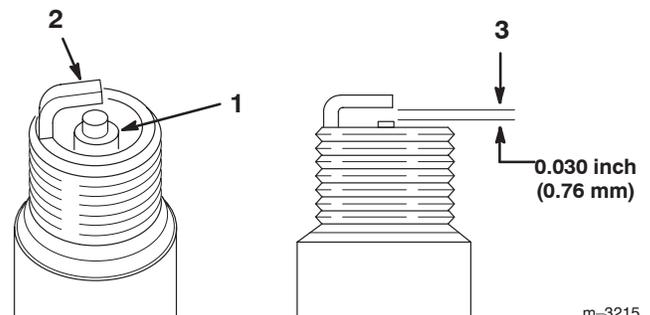

Figure 58
- Look at the center of the spark plugs (Fig. 58).
- Check the gap between the center and side electrodes (Fig. 58) and bend the side electrode, if the gap is not correct.